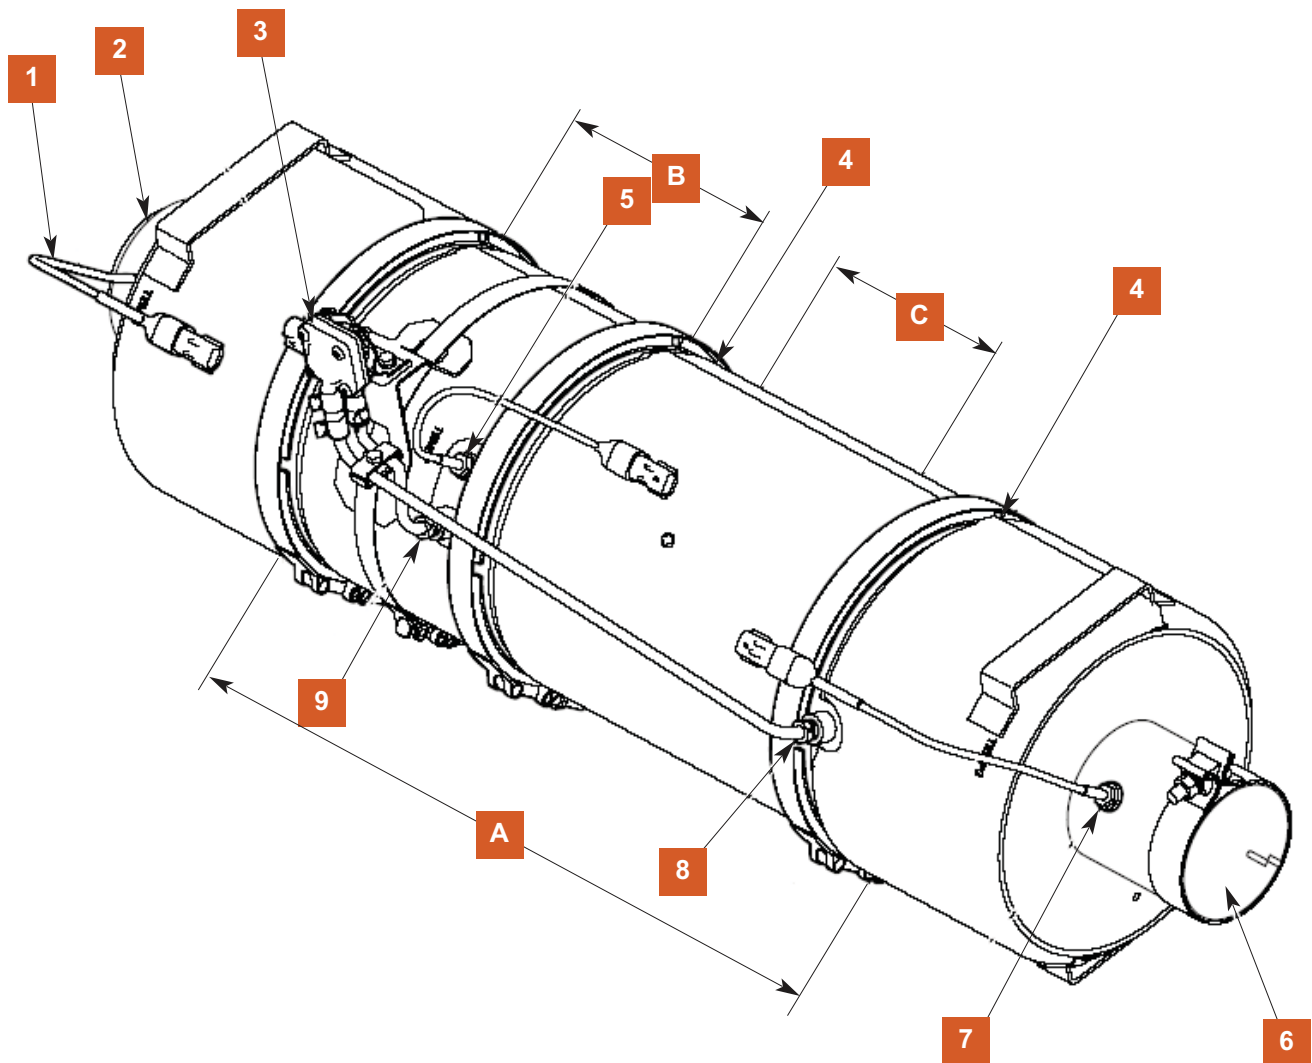

FIGURE 2- AFTERTREATMENT DEVICE (TYPICAL)
The Environmental Protection Agency's 2007 regulations require lower exhaust emissions, thus requiring new exhaust system components. (See Figure 2.) In particular, the aftertreatment device (ATD), which is part of the aftertreatment system (ATS), requires special attention during regularly scheduled maintenance inspections. If any discrepancies are discovered, refer to the engine manufacturer's service literature for repair instructions, or take the vehicle to an authorized Freightliner or Thomas Built Bus service facility for repair.
7. Check the DPF exterior surface for dents or other damage. (See Figure 2, Reference A). A dent over 3 inches (76 mm) in diameter and 1/4-inch (6-mm) deep could cause internal damage to the DPF, causing it to malfunction.